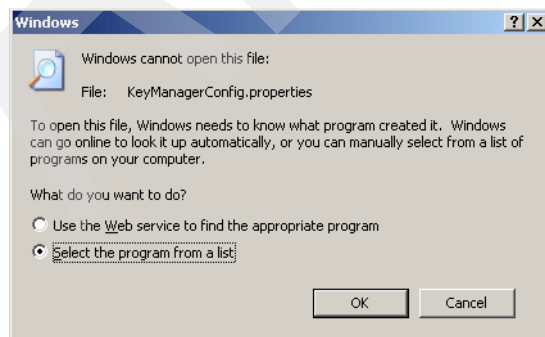

Figure 6-33 Selecting the program prompt
1. Open the KeyManagerConfig.properties file. Choose **Select the program from a list**, as shown in Figure 6-33. Click **OK**.